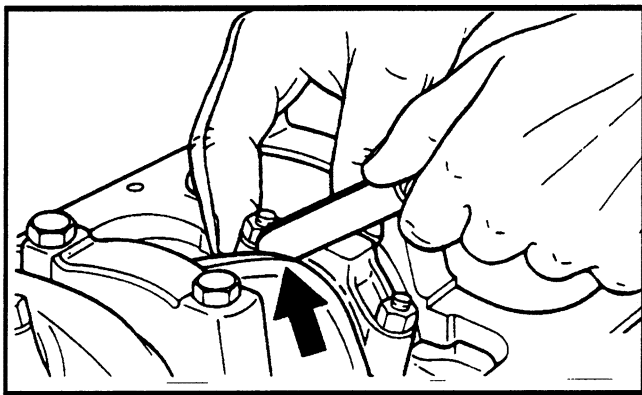

FIGURE 23. MEASURE THE SIDE CLEARANCE, CONNECTING RODS
- b. Measure the clearance between the caps for the connecting rods and the crankshaft. See **FIGURE 23.**